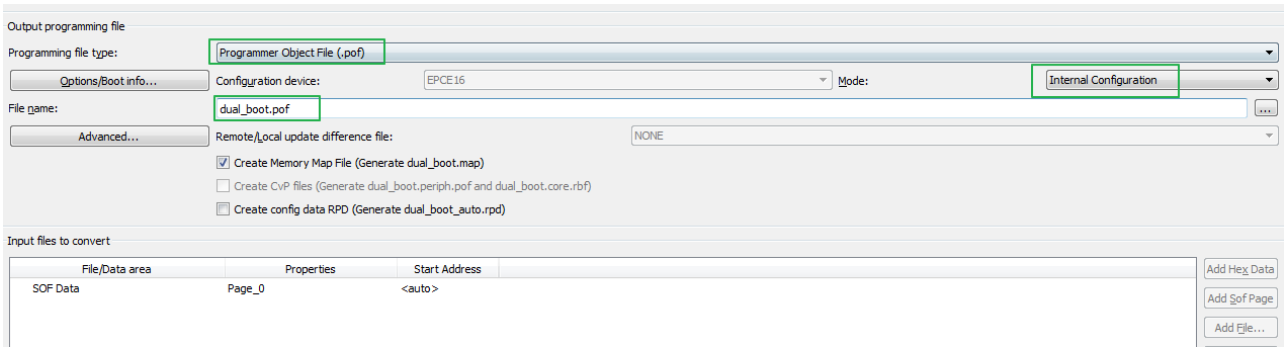

Figure 7-6 Convert File Window Setting
- The next step is to convert the two sof files into a pof file for programming the MAX10 FPGA. Open the convert programming Files tool in Quartus and set as **Figure 7-6**.